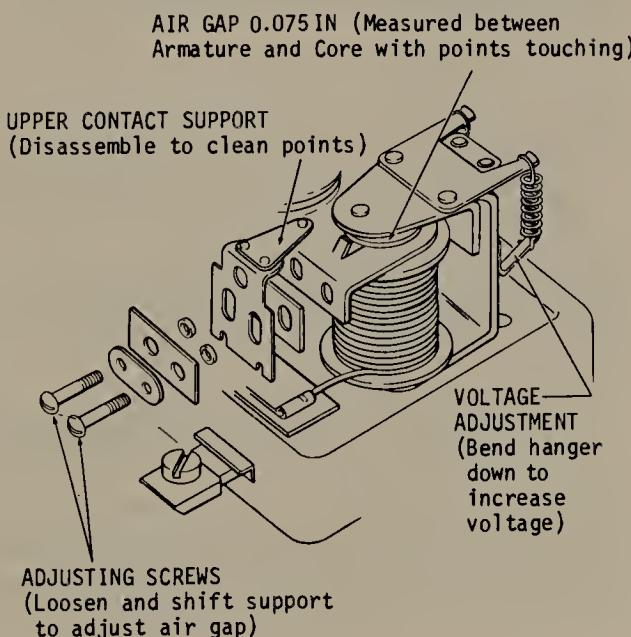

FIGURE 13.18 Current-voltage regulator unit, showing adjustments. (Kohler Company.)
with the result that generator output will be low. This could lead to a run-down battery. You can clean the contacts with a fine-cut file. This requires loosening of the screws holding the upper contact assembly in place so it can be swung to one side, or removed. See Fig. 13.18.
a. Air Gap. See Fig. 13.18. Adjust by loosening the two adjusting screws and raising or lowering the upper contact point assembly. Adjustment is correct when the specified air gap is attained with the contact points just touching. Tighten the screws and recheck the air gap.